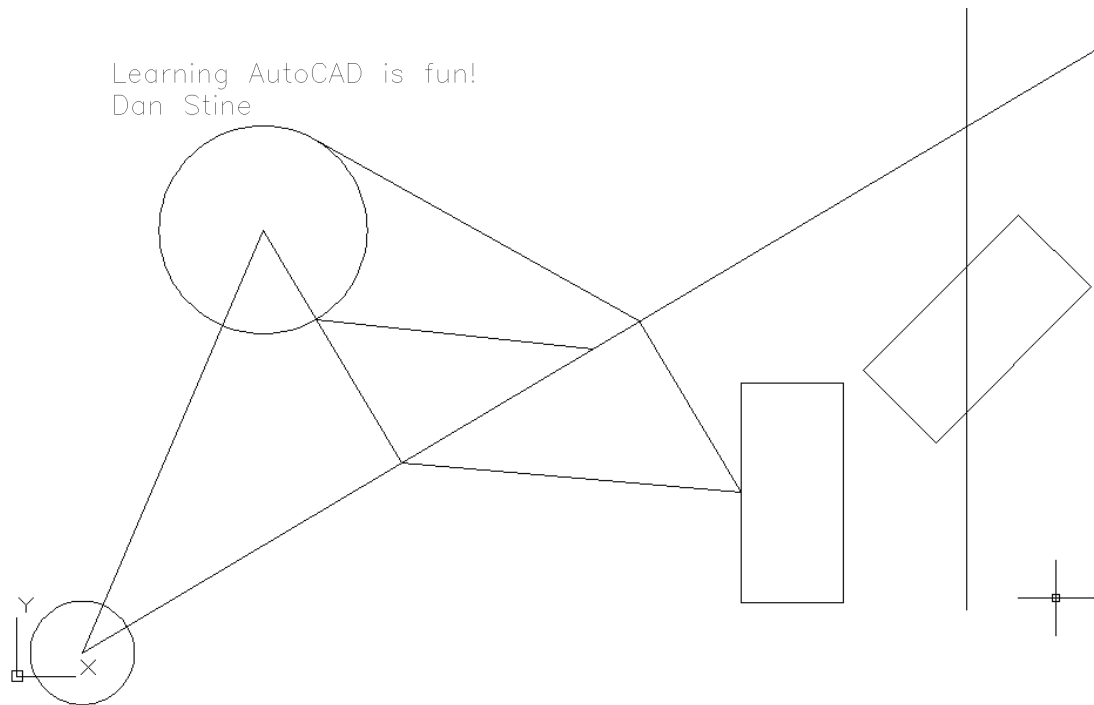

FIGURE 2-4.4 Mtext; final results of text entered
Your text should look similar to Figure 2-4.4. Text can be Moved and Rotated with the tools on the *Modify* toolbar.
2. Use the **Zoom** tools if required to display the portion of the drawing shown in Figure 2-4.4.